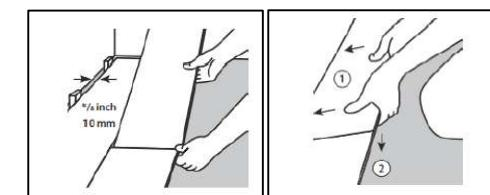

Figure 4
14. Install the second plank of the second row by installing its short edge to the previous row's groove. Hold a plank at approximately a 30-degree angle and connect short end joints together about half-way down the width of the short edge. Before lowering the right edge of the plank, slide it forward towards the previous row. Install the remaining planks and rows in the same manner (**Figure 4**).